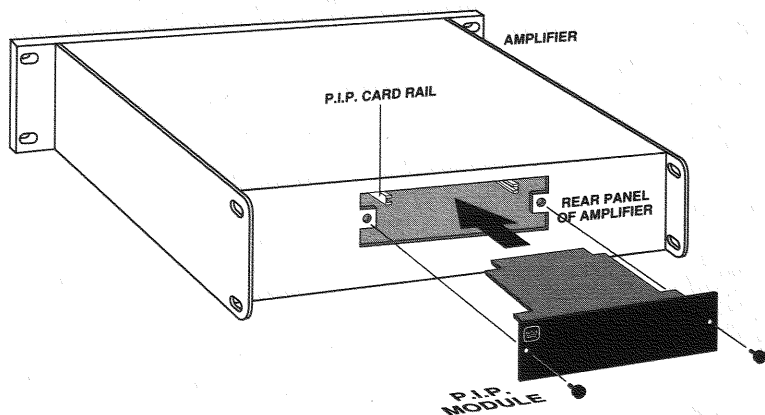

Fig. 3.4 Installing the *P.I.P.*
3. Align the edge connector of the *P.I.P.* circuit board with the *P.I.P.* card rails (see Figure 3.4) and slide the *P.I.P.* into the rails.